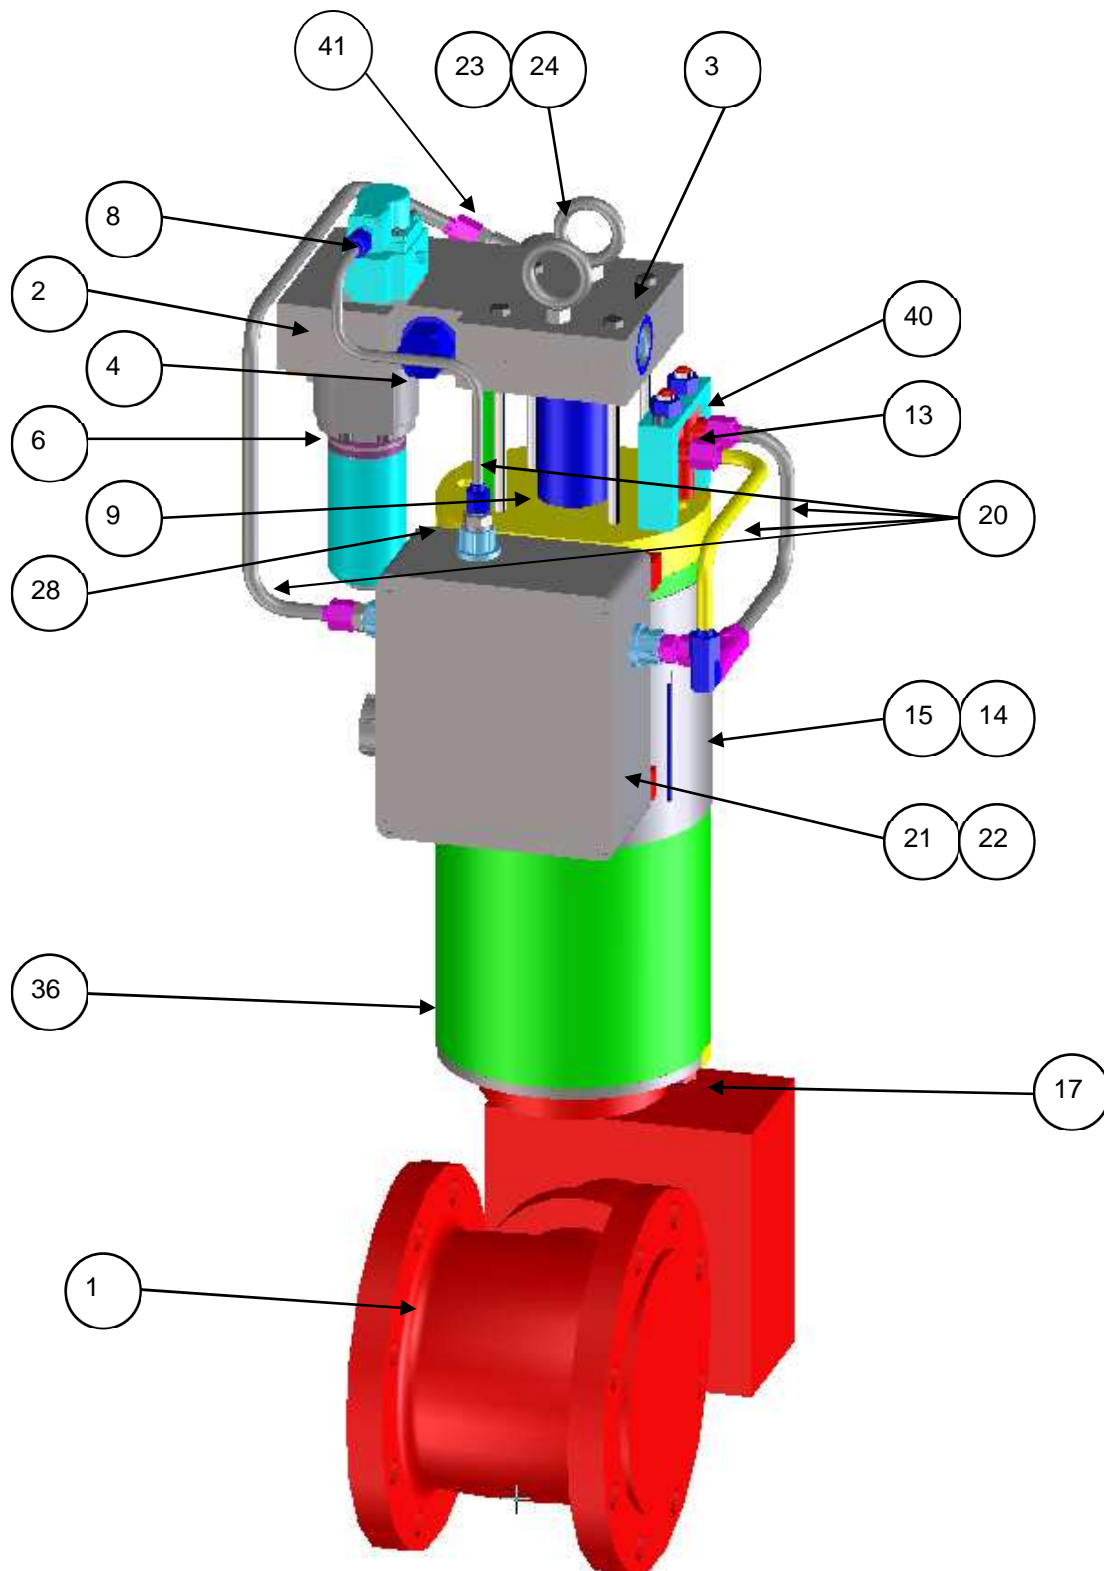

Figure 1-1. Gas Stop/Ratio Valve (General Arrangement)
The Woodward Gas Stop/Ratio Valve with Electric Trip (Figure 1-1) performs a dual function for industrial or utility gas turbines. One function rapidly shuts off fuel to the turbine fuel control system. Another function provides accurate control of gas fuel pressure at the outlet of the stop/ratio valve. This pressure is applied to the inlets of the gas fuel control valve.
**Material List for Figure 1-1**